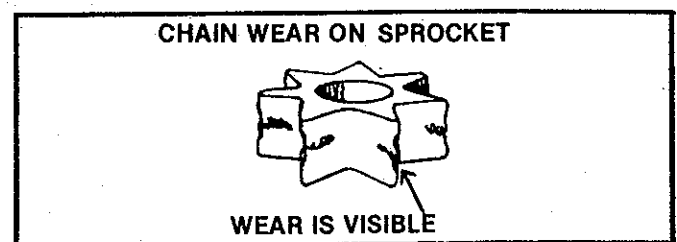

Figure 47
- Inspect the drum/sprocket regularly for wear. A worn sprocket will make the chain run erratically and will shorten the life of the bar and chain. Figure 47.